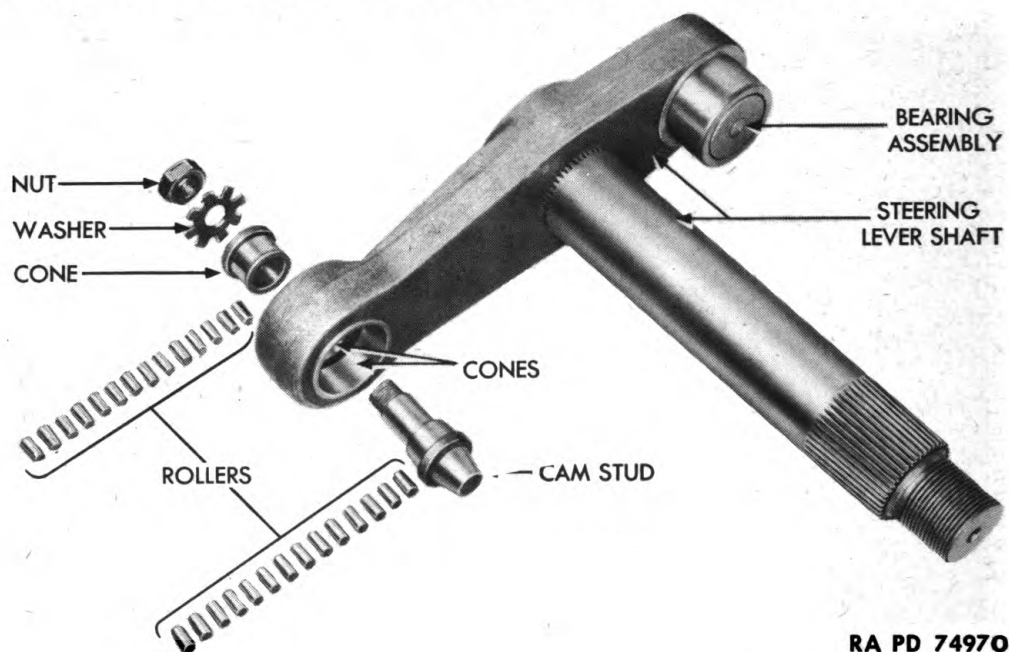

Figure 15 — Steering Lever Shaft — Disassembled
a. Assemble Steering Lever Shaft (fig. 15). Press cones in shaft, lay grease on cones, and install rollers. Drive stud onto shaft, and install washer and nut. Bend leg of washer against nut.